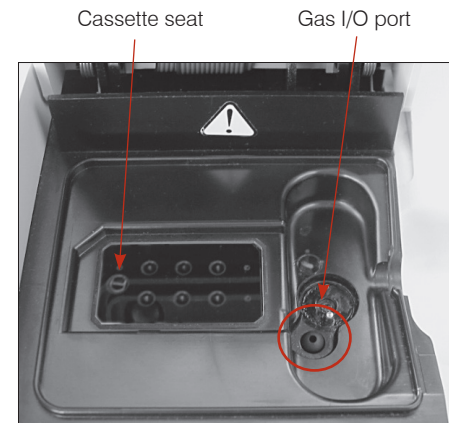

Figure 27. Inside the sample measurement chamber
- Open the SMC cover. Remove the black gas I/O port seal (figure 27) by grasping it with a hemostat or tweezers and firmly pulling upward. Discard the old gas I/O port seal.